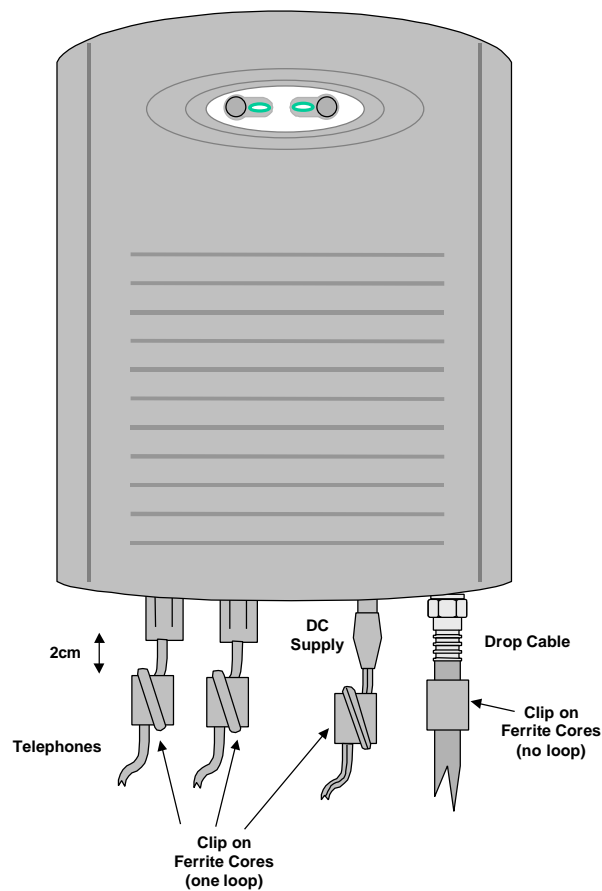

Figure 35. The R Series Service Interface Unit in the Wall Mount position
7. Attach the Service Interface Unit to the mounting bracket by locating the bracket lugs in the mounting slots cut into the Service Interface Unit. The interface connection panel should be at the bottom. Pull down to lock into position. See Figure 35.
6. The bracket lugs fit into the mounting slots cut into the Service Interface Unit. The interface connection panel should be at the bottom. Pull down to lock into position. See Figure 35.